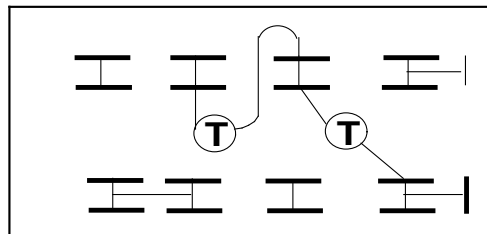

Fig. 8 Wired for 220VAC Operation
Step 1: Wire Power Transformer Terminal block as illustrated in Figure 8.